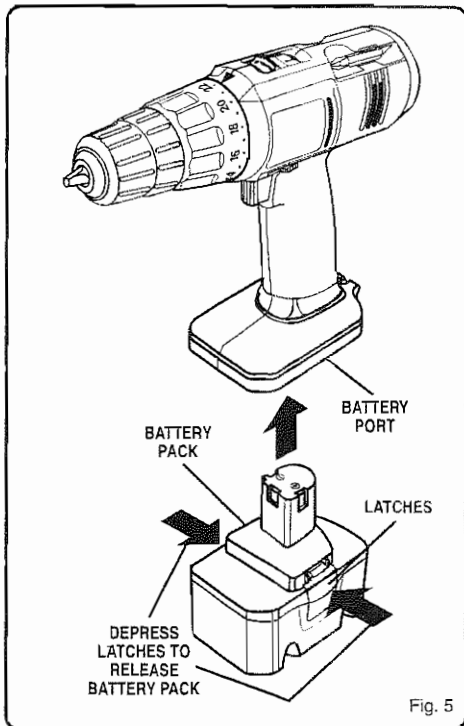

Fig. 5
- Place the battery pack in your drill. Align raised rib on battery pack with groove in drill's battery port. See Figure 5.
- Locate latches on side of battery pack and depress both sides to release battery pack from your drill. *See Figure 5.*